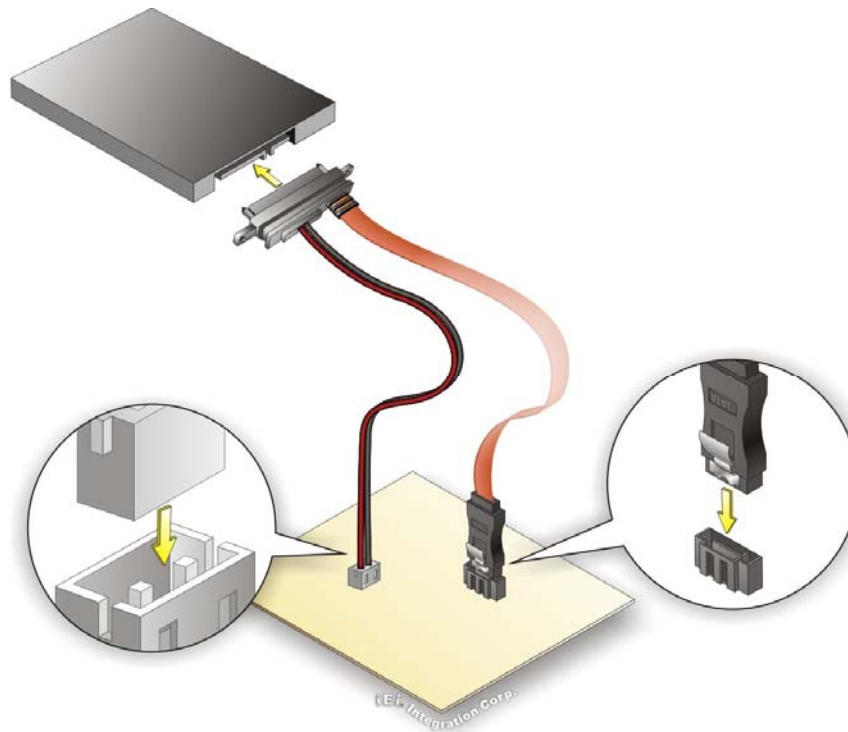

Figure 4-17: SATA Drive Connection
Step 2: Insert the cable connector into the on-board SATA drive connector. See Figure 4-17.
Step 3: Connect the SATA power cable. Connect the SATA power connector into the on-board SATA power connector. See Figure 4-17.
Step 4: Connect the cable to the SATA disk. Connect the connector on the other end of the cable to the connector at the back of the SATA drive. See Figure 4-17.